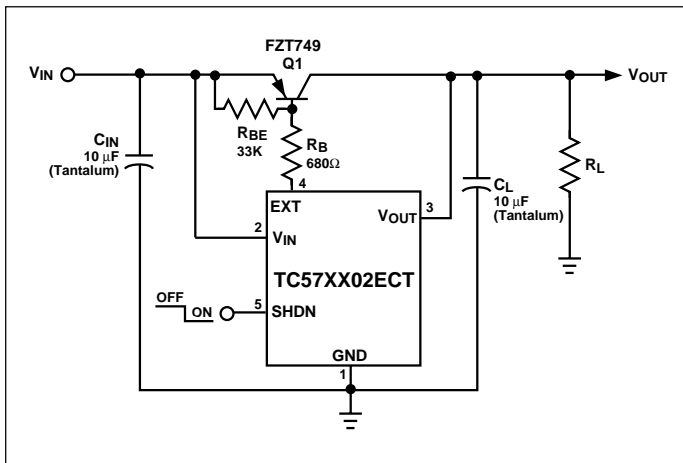

Figure 1. Test Circuit
### ELECTRICAL CHARACTERISTICS TC57EP3002 (NOTE 2): (SHDN = GND, $V_{IN} = V_{OUT} + 1V$ , $V_{OUT} = 3V$ to 5V, $I_{OUT} = 0$ , $T_A = 25^\circ C$ , Test Circuit of Figure 1, unless otherwise noted.)
- Varies with type of pass transistor used. Numbers shown are for the test circuit of Figure 1.